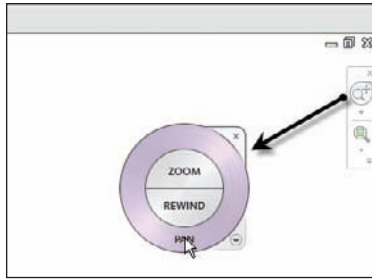

FIGURE 1.37 You can use the steering wheel to navigate through a view.
1. Pick the steering wheel icon from the Navigation bar, as shown in Figure 1.37.
2. Once the steering wheel is in the view window (as illustrated in Figure 1.37), left-click and hold Zoom. You can now zoom in and out.